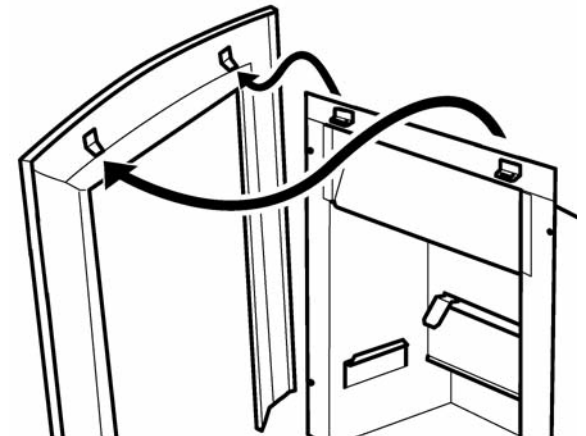

Figure 37. Front casting removal
3. Carefully lift the fascia upward to clear the upper retaining brackets on the hotbox - (See figure 37). Pull the fascia clear and place carefully aside.
2. Hold the sides of the fascia and lift clear of the support brackets (See figure 37).